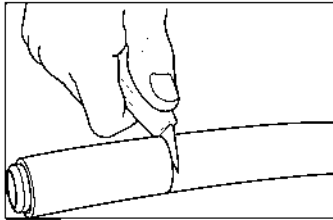

Figure: 4-50
- Finish cutting through the sleeve down to the stainless corrugated pipe using a sharp utility knife. Figure: 4-50